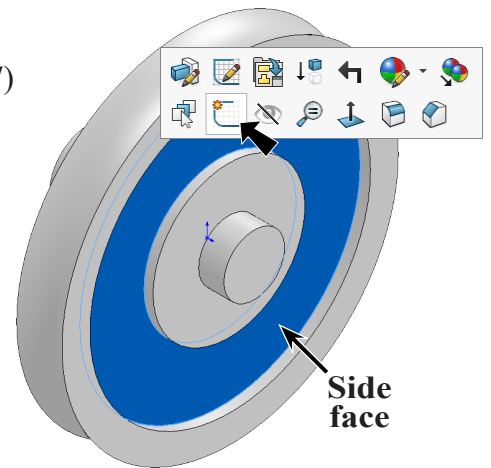
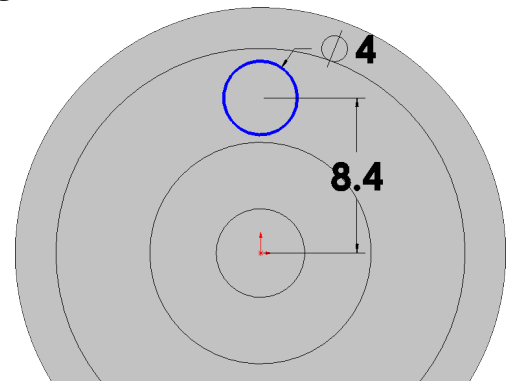

Fig. 19
Fig. 20
Step 2. Click **side face of rim** and click **Sketch**  on the context toolbar, Fig. 19.
Step 4. Click **Circle**  (S) on the Sketch toolbar.
Step 5. Sketch a circle for the hole above the Origin , Fig. 20.
Step 6. Click **Smart Dimension**  (S) on the Sketch toolbar.
Step 7. Add dimensions, Fig. 20.